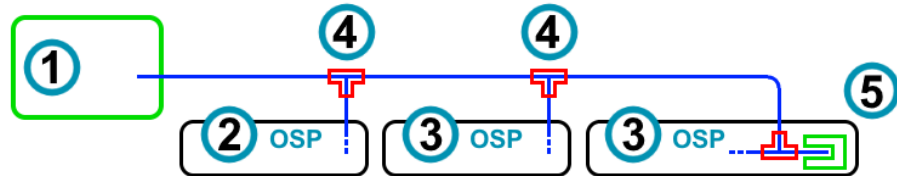
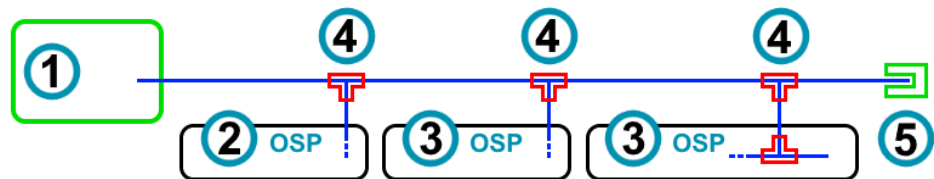

Figure 5-48: Schematic trigger setup with internal 50 ohms termination in the last switch unit (3)
Figure 5-49: Schematic trigger setup with external 50 ohms termination (5) after the last trigger input
- Terminate the trigger line with 50 ohms at one switch unit. To do so, terminate it either at the primary switch unit (in the absence of secondary switch units) or typically at the last secondary switch unit (if available). Termination can be **internal** inside a switch unit as in Figure 5-48 or **external** as in Figure 5-49.
If the signal cable is not externally terminated (as in Figure 5-48), use internal termination in **one** switch unit. To do so, set "Termination" to "50 Ohm" in **this** switch unit and to "High Impedance" in **all other** switch units.
If the external 50 ohms termination (labeled 5 in Figure 5-49) is present, set "Termination" to "High Impedance" in **all** switch units.